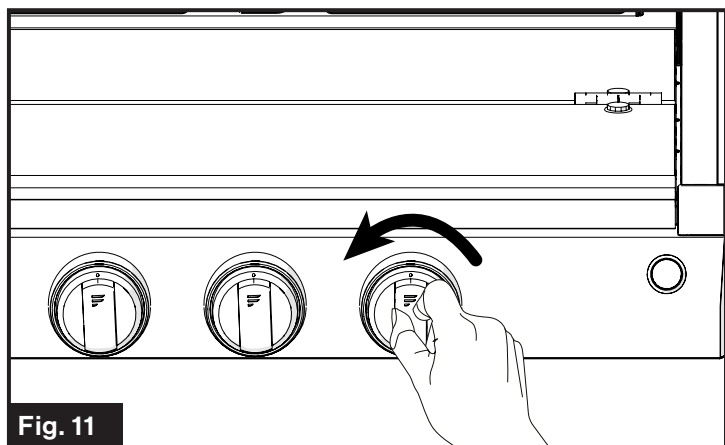

Fig. 11
2. Push and turn the appropriate burner control knob counterclockwise to the 🔥 position. (Fig. 11)